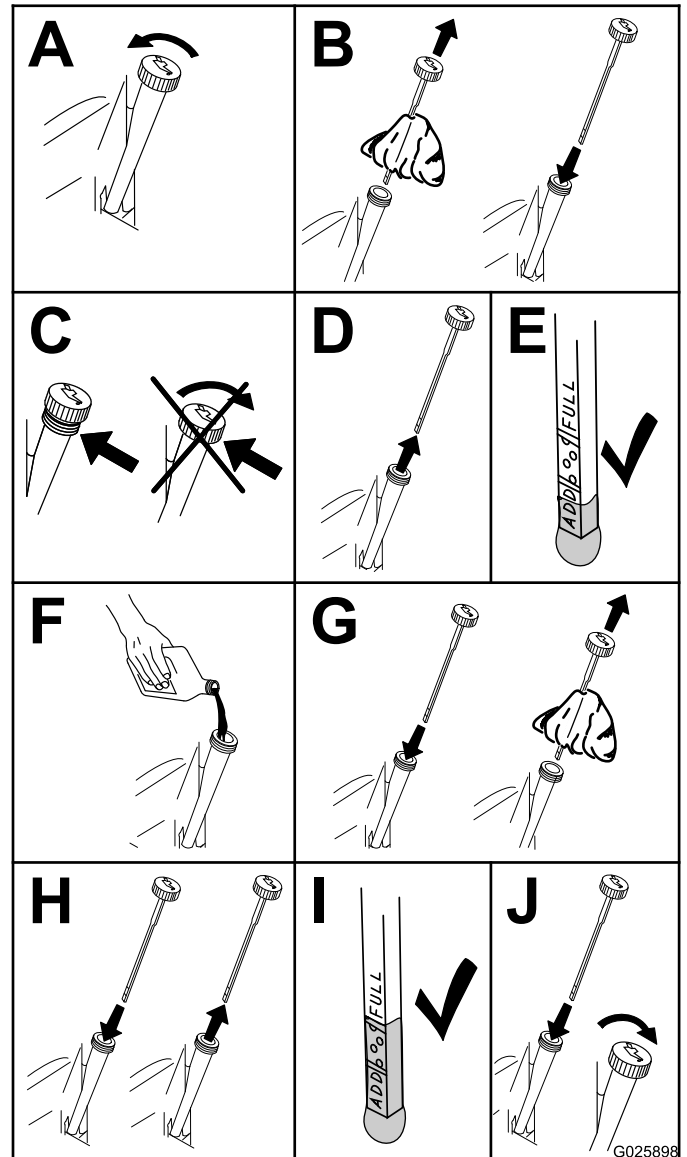

Figure 37
3. Check the engine-oil level as shown in Figure 37.